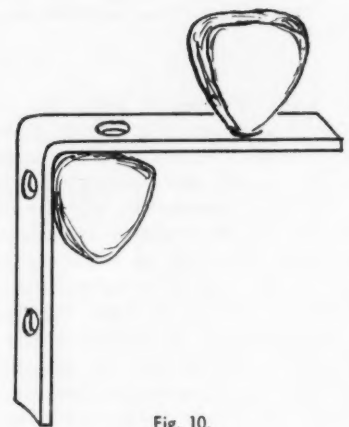

Fig. 10.
(2) A mixture of 1" chips and, perhaps,  $\frac{3}{16}$ " chips would provide the rapid cutting of larger media together with the penetration ability of the smaller media. This method is often used, but consideration must be given to the screening necessary to assure proper size of the smaller chips, initially, and separation of the two chip sizes after processing is done.
(3) Abrasive forms, molded into accurately shaped and sized media, provide a precise method of gaining rapid action, as well as penetration to hard-to-get-at places. Consider an abrasive form such as that shown in Fig. 10. The triangular shape presents points which reach burrs well within the holes of parts, contact inner radii and, at the same time, have a large individual mass capable of results expected with large chips.
(4) Removal of burrs or roughened surfaces within holes in parts, or inside sleeves and like parts, can be accomplished by using metal forms made of unhardened steel or zinc, for instance. Being "soft," they are capable of becoming impregnated with grit (when used with abrasive compounds) and acting as small files to grind in remote places. A typical routine for use of metal forms is presented a little later.
(5) When processing relatively soft parts, it is well to consider media which has resilience or "give" so that impingement is not so likely, as would be possible with very hard media. Typical soft, but none the less active media are "rubber" and hardwood forms. The former are composed of abrasive grains bonded with rubber or a similar compound, and shaped into